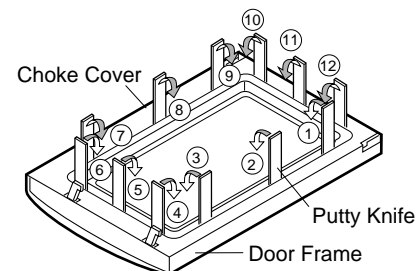

Figure C-7. Door Disassembly
3. Insert a putty knife (thickness of about 0.5mm) into the gap between the choke cover and corner portion of door panel as shown in Figure C-7 to free engaging parts.